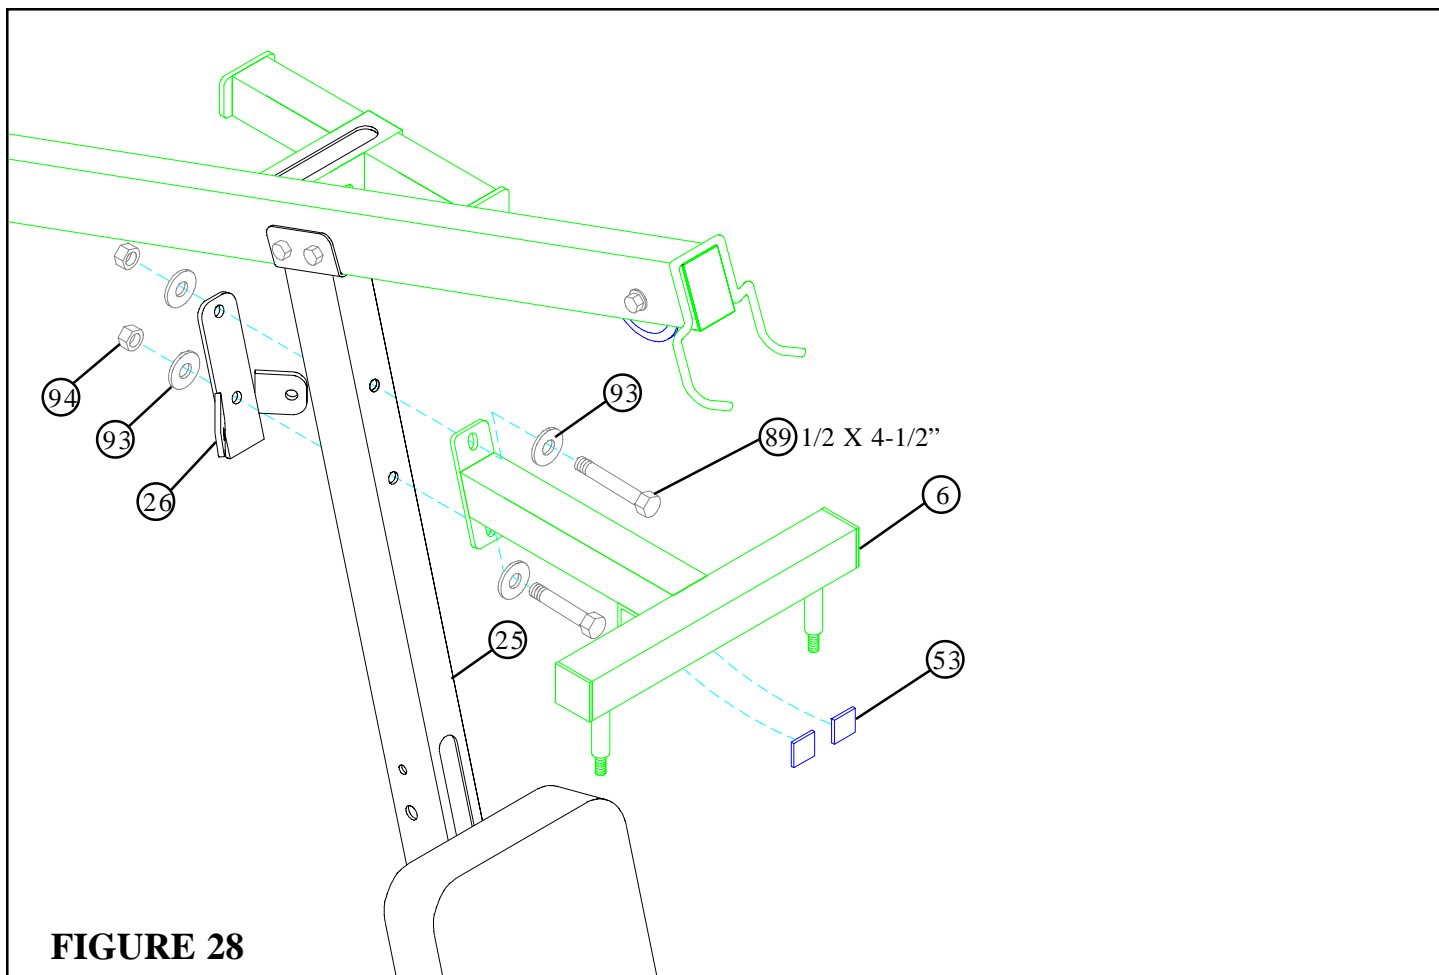

FIGURE 28
- **SECURELY** assemble the BEARING HOUSING (6) and the CENTER PULLEY BRACKET (26) to the FRONT UPRIGHT (25) using two 1/2 X 4-1/2" BOLTS (89), four 1/2" WASHERS (93), and two 1/2" LOCK NUTS (94). See FIGURE 28.
- Attach two 1 X 1" GUIDES (53) to the ANGLE on the **UNDERSIDE** of the BEARING HOUSING (6). See FIGURE 28.